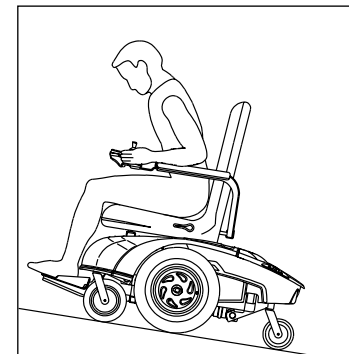

Figure 1
4. Lean or press your body uphill. This will help adjust for a change in the center of balance caused by the slope. (Figure 1)